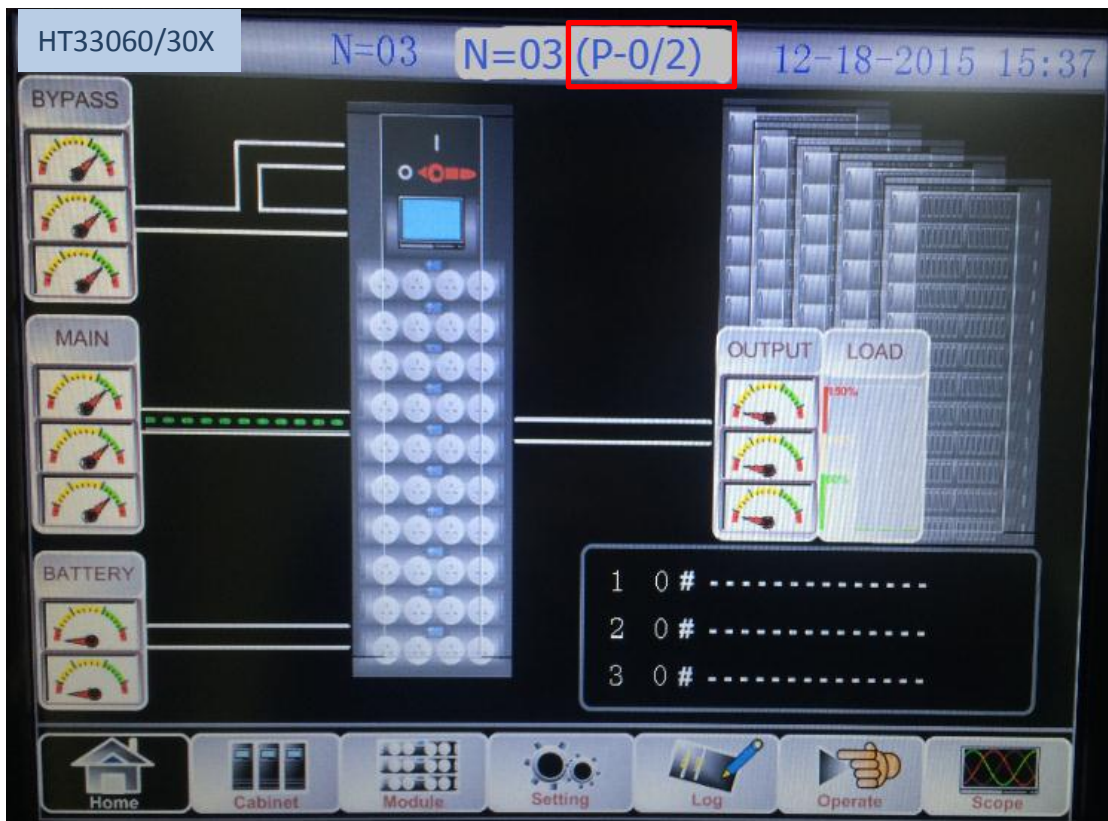

Figure 10 Parallel LCD
- Reset the cabinet, (shut down this cabinet, then power on) and press EPO. Ensure the settings displayed on LCD are what we needed, then shut down this cabinet, as is shown in figure 10.